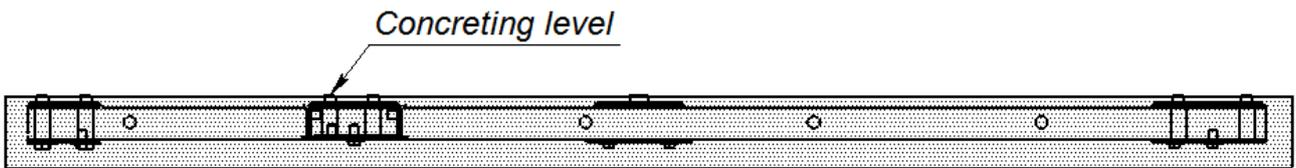

Figure 3. Frame installation layout
10. Pour concrete to the foundation, up to the upper level of threaded bushes as shown in Figure 3.